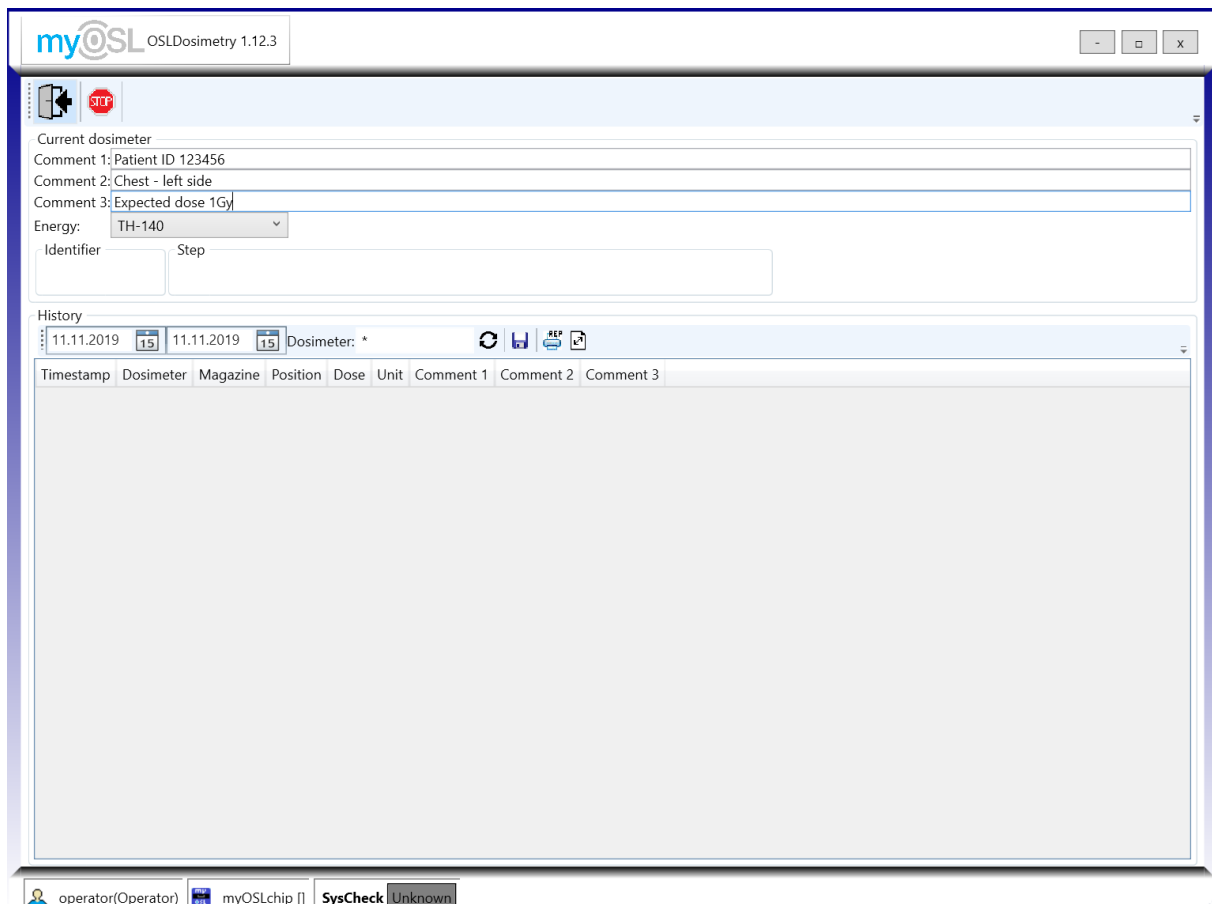

Figure 26: Measurement interface with operator login
- 2.) Login with operator account. Figure 26 shows the measurement interface when logged in as operator.
- 6.) The “Identifier” (Figure 26) indicates the actual dosimeter number.